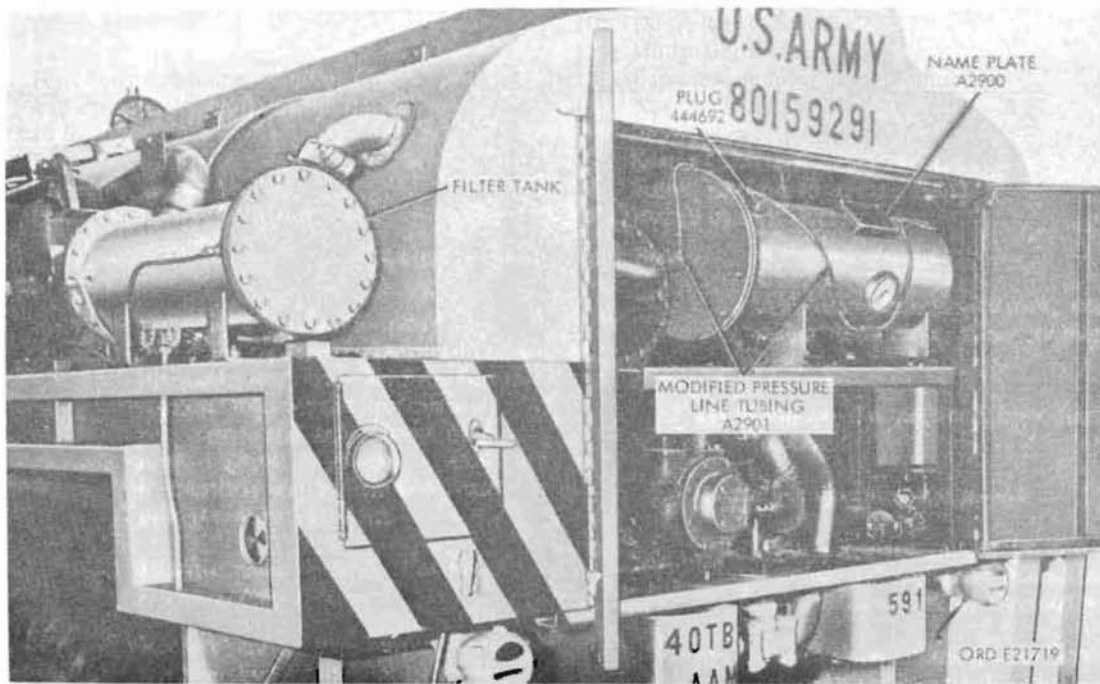

Figure 284. M49C with filter assembly on catwalk (up to serial No. 140699)
- (4) M49C truck (fig. 284). The M49C fuel tank trucks manufactured by Reo Motors with serial numbers below 140700 and those manufactured by Studebaker (Curtis Wright) with serial numbers below 49265 have a water segregator unit in the rear compartment and an additional filter mounted on the left catwalk. The segregator and filter separate water and other impurities from aviation gasoline. The segregator and filter may be bypassed, when required, by use of the gravity discharge system. An accurate meter (fig. 292) is provided in the discharge pipe system between the segregator and discharge hose to measure the amount of fuel delivered through the pump discharge system. The meter is not connected to the gravity discharge system.